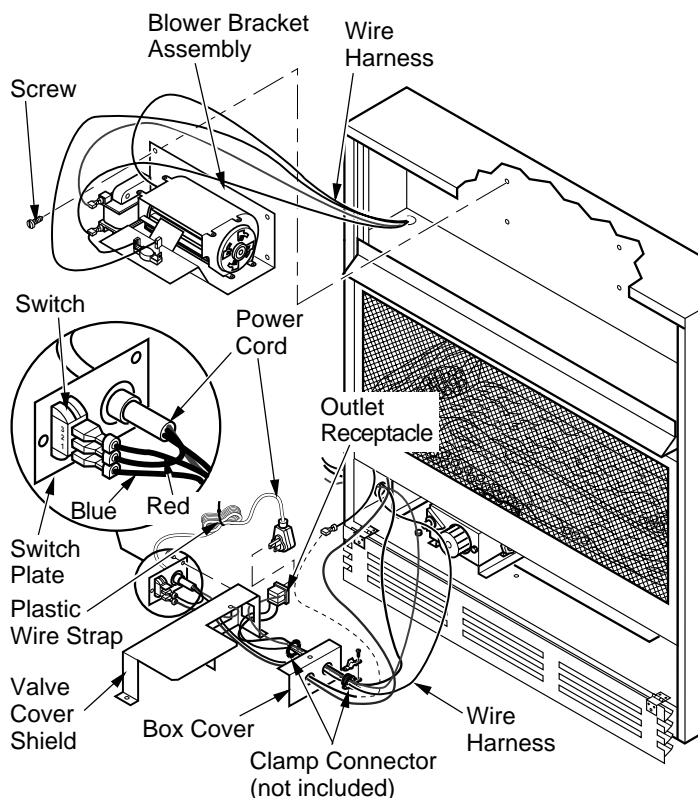

Figure 21 - Installing Blower Bracket Assembly
- Plug power cord to the outlet receptacle (not provided) as shown in Figure 21. Wind the extra cable in power cord and tie it up with the plastic wire strap (see Figure 21). Set the cable bundle between the burner bracket and outer casing, away from the burner.